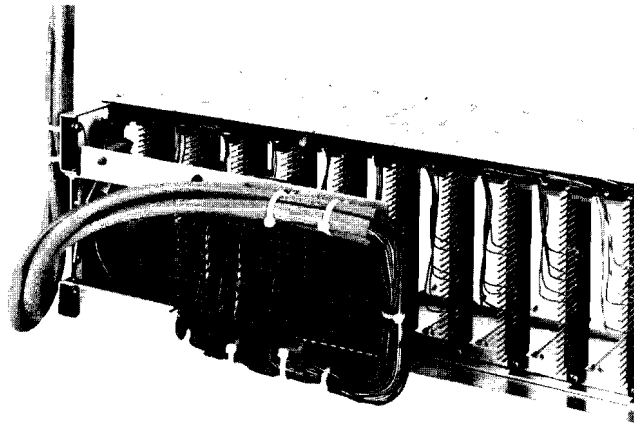
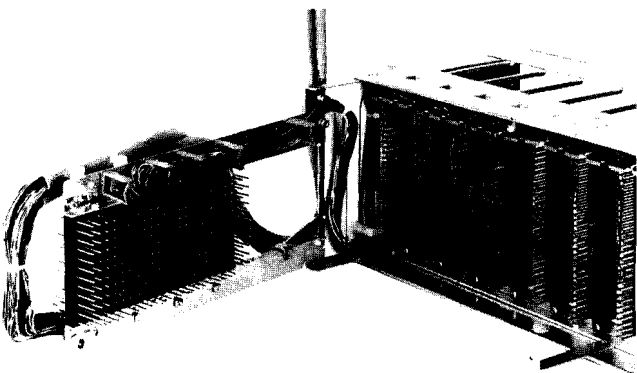

figure 10. Type 10 Universal Shelf in operating configuration (backplate locked in place)
figure 11. Type 10 Universal Shelf with backplate swung open for jumper access
2.07 Universal Shelves. Tie cables from the main frame are routed to the Universal Shelf from the left side (looking at the shelf from the rear). As the cable approaches the shelf, two tie mounts are provided to stabilize and properly route the cable. At this point (see figure 10), the tie cable is routed downward into a service loop that allows the hinged backplate to swing open freely. The loop must be full but should not extend below the bottom of the
Universal Shelf **must be routed as described above** to prevent undue bending, fatigue, and resultant physical failure of the cable as the backplate is moved from the open position (figure 11) to the closed position (figure 10).
2.08 Connectorized Universal Shelves. Connectorized tie cables from the main frame are routed to the Connectorized Universal Shelf from the left side (looking at the shelf from the rear). As the cable approaches the shelf, two tie mounts are provided to stabilize and properly route the cable. At this point (see figure 10), the cable is routed downward into a service loop in essentially the same manner as for the Universal Shelf. Again, the loop must be full but should not extend below the bottom of the shelf. After the service loop, the cable is routed directly to one of the 25-pair cable connectors. The backplate of the Type 10 Connectorized Universal Shelf has a reversible connector hold-down bracket for use with both low-profile and high-profile cable connector hoods. This bracket is secured via two screws to standoff posts on the rear of the backplate and must be removed to install the 25-pair cables. After the tie cables are installed, replace the bracket as shown in figure 12. Tie
2.09 Jumper leads from the backplate to various module positions may be installed as required. Figure 11 provides a visual reference for the following description of jumper-lead routing. (Please note that while figure 11 shows a Type 10 Universal Shelf, jumper installation and routing on Type 10 Connectorized Universal Shelves is essentially the same.) Leads from the various module positions are routed up and through wire guides at the top of the shelf, then to the left rear side of the shelf, where **a service loop must be constructed** to provide freedom of movement for the hinged backplate and to position the leads to prevent fatigue and subsequent failure as the backplate is opened and closed. One wire saddle is provided near the bottom of the service loop to maintain the loop's position. The loop extends to the bottom of the shelf and returns to the top of the backplate. Individual leads